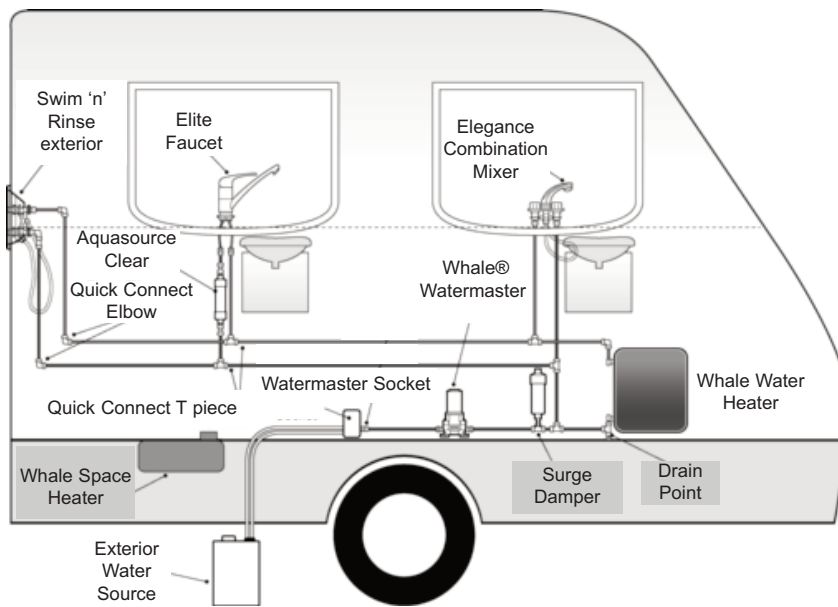

Fig. 1b Typical Installation in a RV System (Illustration for guidance purposes only)
- RV/Caravan vehicles (fig 1b)